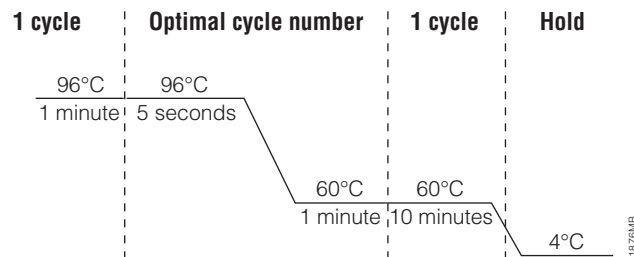

Figure 39. Thermal cycling protocol for the GeneAmp® PCR System 9700, Veriti® 96-Well Thermal Cycler and ProFlex® PCR System.
- Select and run the recommended protocol, which is provided below and in Figure 39. The total cycling time is approximately 1 hour.